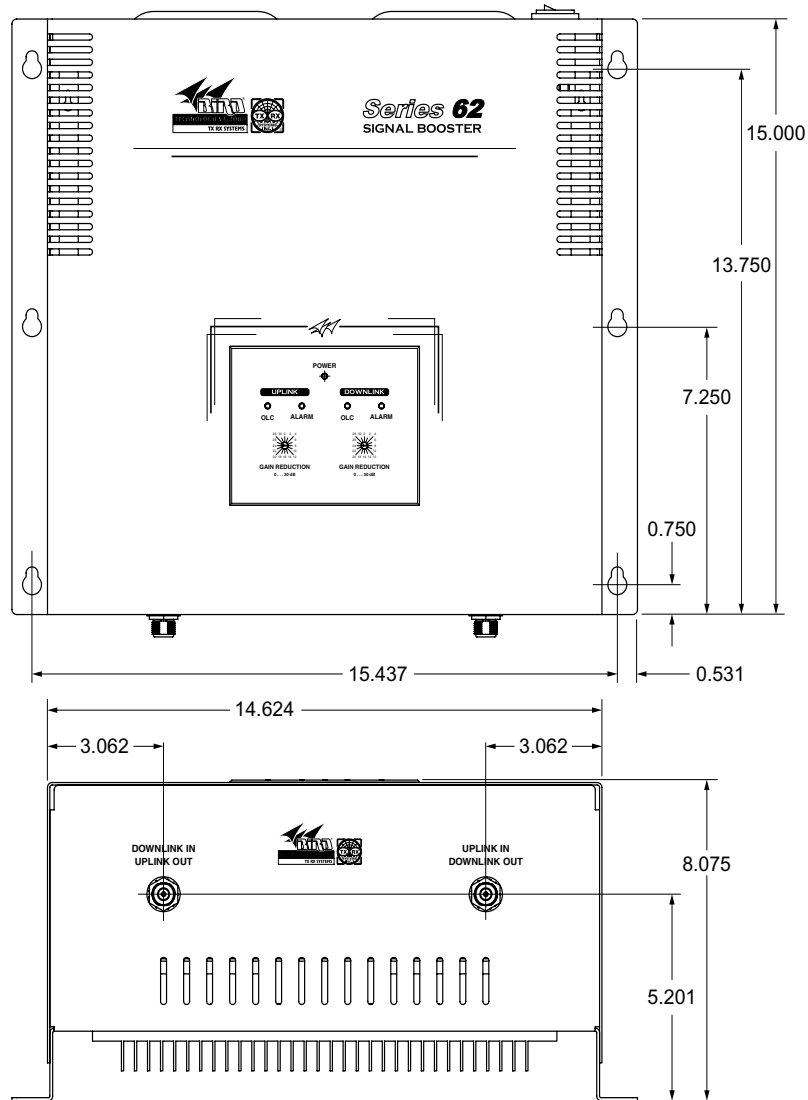

Figure 8: Mechanical dimensions.
Figure 8 shows mounting hole dimensions and layout for the cabinet. Because TX RX Systems, Inc. cannot anticipate all the possible mounting locations and structure types where these devices
1. Mount the signal booster on the wall with the RF connectors pointing DOWN. Using appropriate screws and anchors, attach the signal booster to the wall at the six mounting holes on the side flanges. Refer to figure 8.